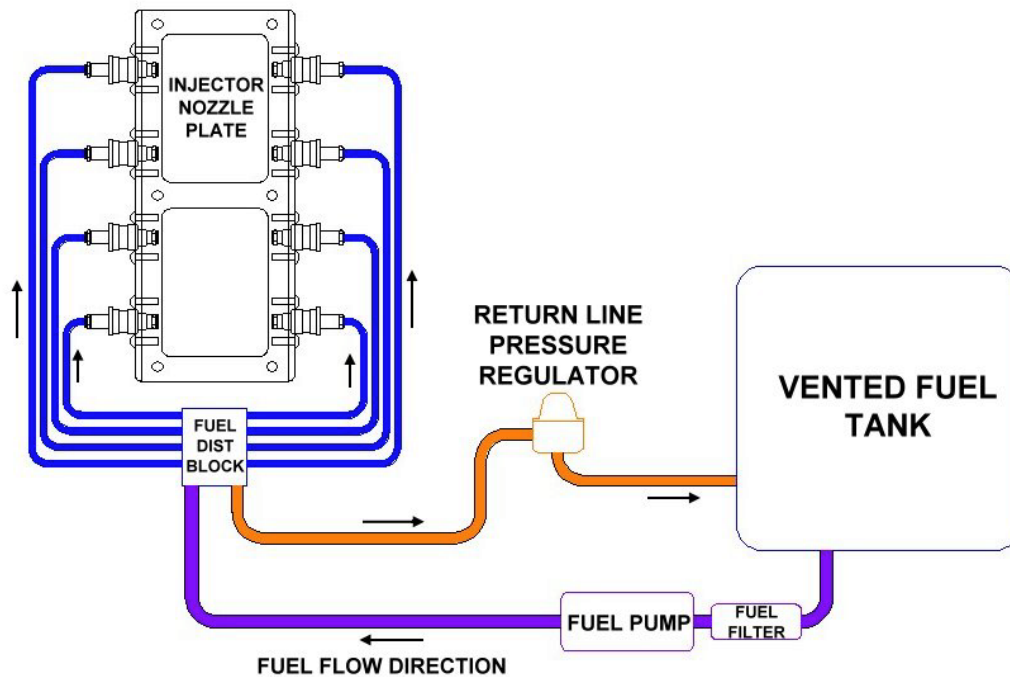

Figure 1: Schematic Fuel System Diagram
3. The **REDUCTION FUEL HARMONIZER™** can be installed the same way as a fuel filter. Install the fuel filter housing (which contains now the **REDUCTION FUEL HARMONIZER™**) into the incoming fuel line. It can be installed anywhere between the gas tank and the engine, wherever it seems most appropriate (see Figure 1 the violet part of the fuel line leading from the gas tank to the engine).